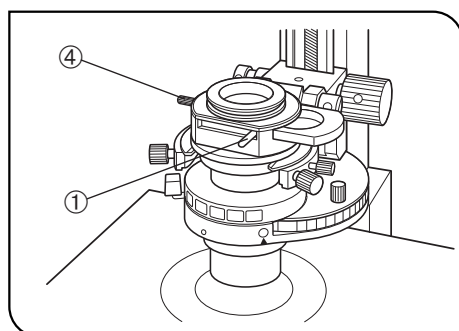

Fig. 64
5 Cross-Nicol Adjustment (Figs. 64 to 66)
(Figs. 64 to 66)
1. Rotate the condenser's turret for the BF (brightfield) light path (with no optical element engaged in the light path). (Fig. 64)
2. Slide the polarizer detaching lever ① on the IX-LWPO polarizer to engage the polarizer in the light path. (Fig. 64)
7. While observing the objective's exit pupil, rotate the polarizer rotation/clamping knob ④ on the polarizer unit horizontally until the black interference stripe becomes darkest. This is the position for use of the polarizer. (Figs. 64 & 66)